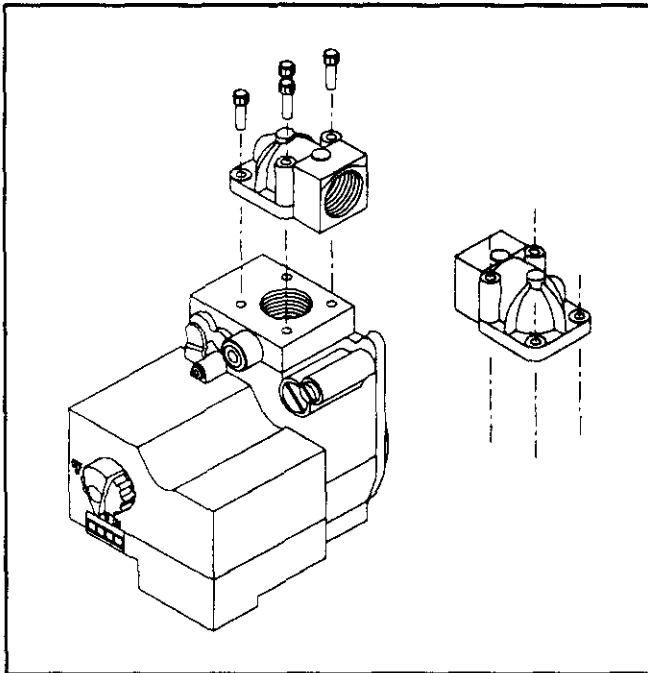

Figure 20. Changing direction of furnace gas control inlet elbow.
- For gas line entry through the knockout in the left side of the casing, reverse the furnace gas control inlet elbow, as shown in Figure 20. 1/2" NPT pipe can now be attached to the furnace gas control from the left side. See instructions below for changing furnace gas control inlet elbow.
- For gas line entry through the knockout in the top plate, remove the furnace gas control inlet elbow, shown in Figure 20. 1/2" NPT pipe can now be attached directly to the furnace gas control.
- For gas line entry through either of the upper knockouts located in the right and left sides of the casing, remove the furnace gas control inlet elbow, shown in Figure 20. 1/2" NPT pipe can now be attached directly to the furnace gas control. See instructions below for changing furnace gas control inlet elbow.